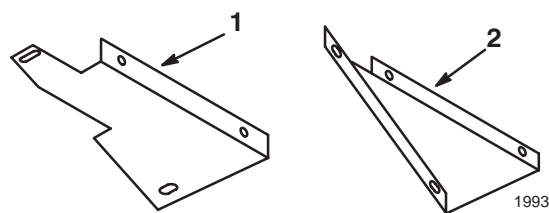

Figure 17
1. Select the belt cover bracket appropriate for your mower as illustrated in Figure 17.